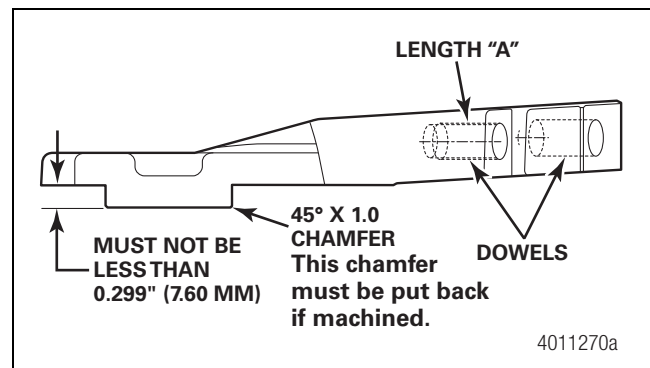

Figure 5.20
- Machine the dowel length "A", 0.16-inch (4 mm) shorter as shown in Figure 5.20.